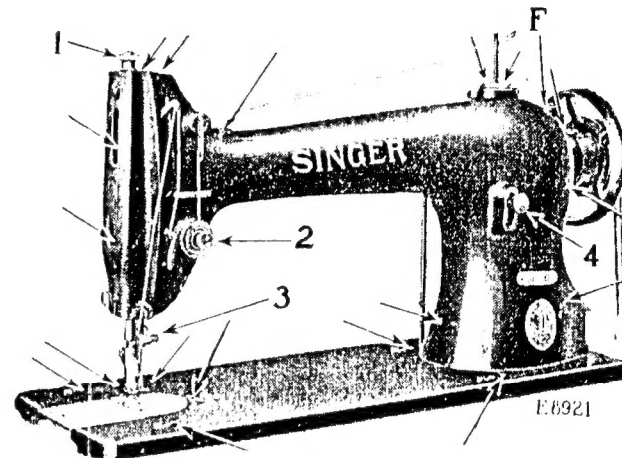
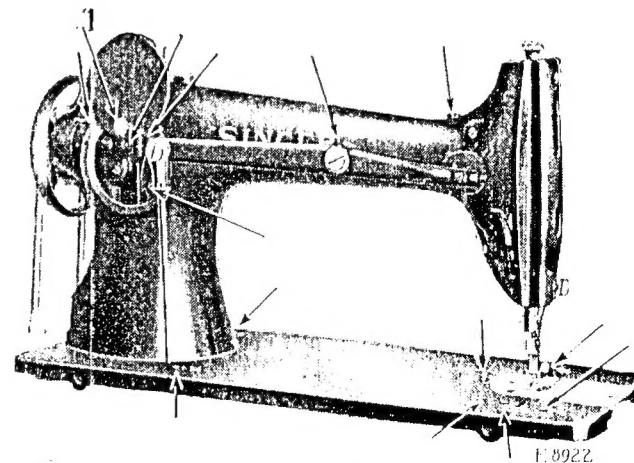

FIG. 15. OILING POINTS AND ADJUSTMENTS AT THE
FIG. 16. OILING POINTS AT THE BACK OF THE MACHINE
Turn the balance wheel over toward you until the needle bar moves up to its highest point; loosen the screw (3, Fig. 15, page 17) in the needle clamp and put the needle up into the clamp as far as it will go, with the long groove of the needle toward the left and the eye of the needle directly in line with the arm of the machine, then tighten the screw.
The tension on the needle thread should only be regulated when the presser foot is down. Having lowered the presser foot, turn the small thumb nut (2, Fig. 15, page 17) at the front of the tension discs over to the right to increase the tension. To decrease the tension, turn this thumb nut over to the left.
The length of stitch is regulated by the thumb screw (4, Fig. 15) in the slot on the front of the upright part of the arm. To lengthen the stitch, loosen the thumb screw (4) and move it downwardly. To shorten the stitch, loosen this thumb screw and move it upwardly. When the desired length of stitch has been obtained, tighten the thumb screw.
The pressure on the material is regulated by the thumb screw (1, Fig. 15, page 17). To increase the pressure, turn this thumb screw over to the right. To decrease the pressure, turn this thumb screw over to the left.
Oil should be applied at the places as shown by arrows in Figs. 15, 16 and 17, and when the machine is in continuous use it should be oiled at least twice each day. Loosen the thumb screw (1, Fig. 16, page 17) in the round cover plate on the back of the machine, turn the cover plate up and oil the bearings which are thus uncovered.
Sufficient oil should be applied to the wicking which is retained in the oil tube (F, Fig. 15) to keep the wicking saturated. This tube conducts the oil to the arm shaft gears.